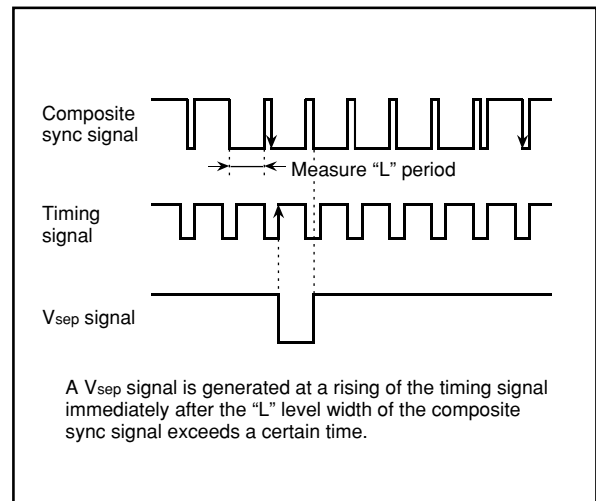

Fig. 28. Vsep Generating Timing (method 2)
- Method 2 The "L" level width of the composite sync signal is measured. If this width exceeds a certain time, it is detected whether a falling of the composite sync signal exists or not in the "L" level period of the timing signal immediately after this "L" level. If a falling exists, a Vsep signal is generated in synchronization with the rising of the timing signal (refer to Figure 28).
Figure 28 shows a Vsep generating timing. The timing signal shown in the figure is generated from the reference clock which the timing generating circuit outputs.